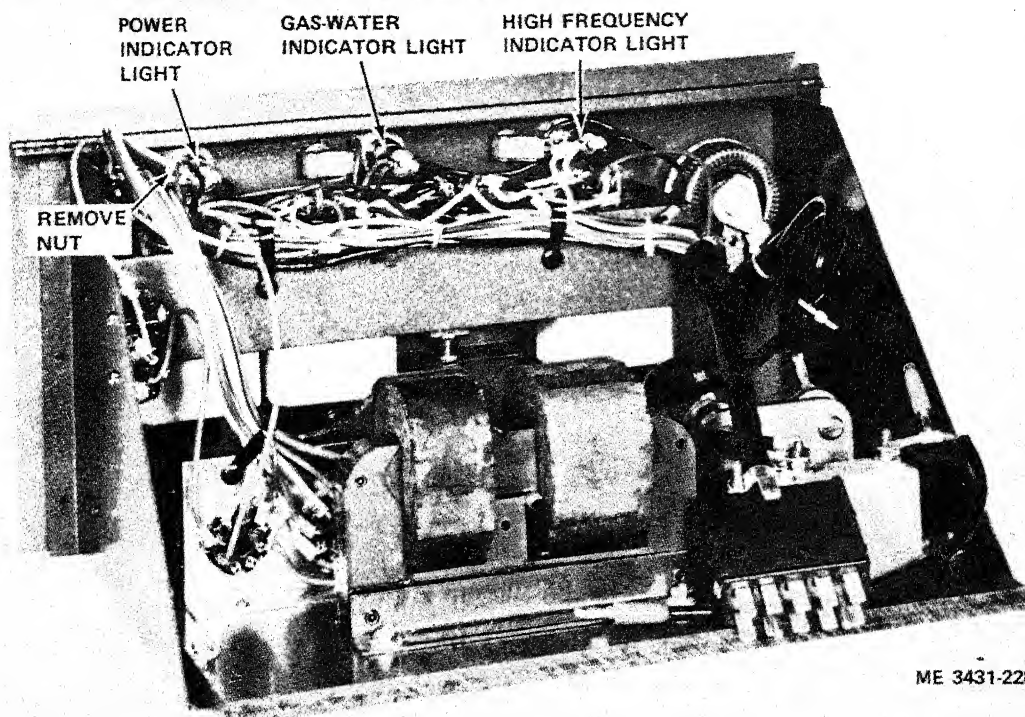

Figure 3-7. Pilot lights, removal and installation.
- (1) Disconnect ac power from the welding machine.
- (2) Remove the pilot lamps (para 3-8b).
- (3) Remove the timer and high frequency drawer (para 3-19) to obtain access to the interior.
- (4) Refer to figure 3-7 and remove the pilot lights.
- (1) Refer to figure 3-7 and install the pilot lights.
- (2) Install the timer and high frequency drawer (para 3-19).
- (3) Install the pilot lamps (para 3-8b).